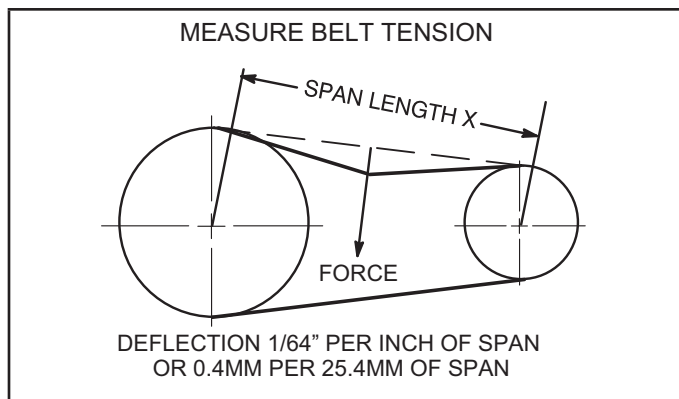

FIGURE 22
- 1 - Measure span length (X). See FIGURE 22.
- 2 - Apply perpendicular force to center of span (X) with enough pressure to deflect belt $1/64$ " for every inch of span length or 0.4mm per 25.4mm of span length.